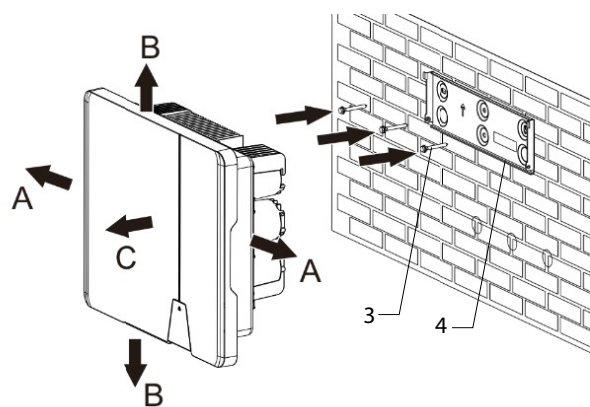

Fig. 9. Mounting the wall bracket
- Minimum clearances to be observed during installation [see Figure 9 on Page 12]